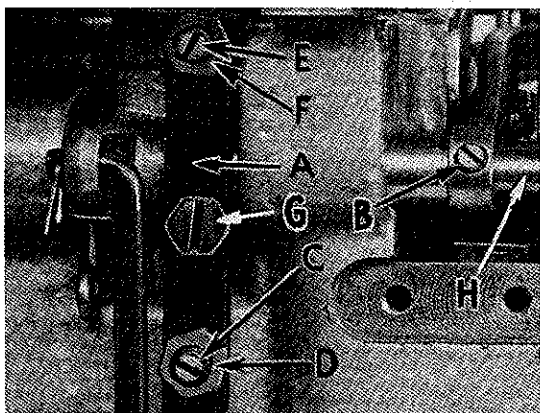

Fig. 14
Assemble the presser foot to presser arm. With needle in high position, swing presser arm into sewing position and set the presser foot to align needle holes (front and back) and flat on throat plate. The front edge of needle hole in presser foot must be aligned with front edge of needle hole in throat plate. It is also important that the bottom of the presser foot be flat on the throat plate. If necessary, presser foot can be re-aligned with throat plate slots by shifting the foot lifter lever shaft (H, Fig. 14). To move the shaft, loosen collar screws (B, Fig. 14) and clamp screw (G) and then shift the foot lifter lever shaft to the left or right as required. Re-tighten collar screws and clamp screw.
The foot lifter lever arm (A, Fig. 14) and the collar (B) secure the shaft. Be sure the presser arm does not bind and rise when